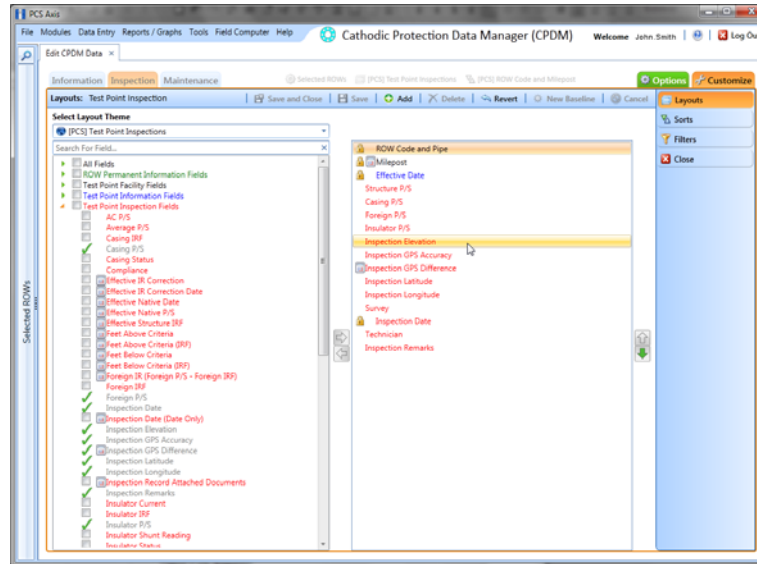

Figure 7-29. Layouts
- 3 Click the **Customize** tab  to view the *Layouts* page (Figure 7-29, page 313).